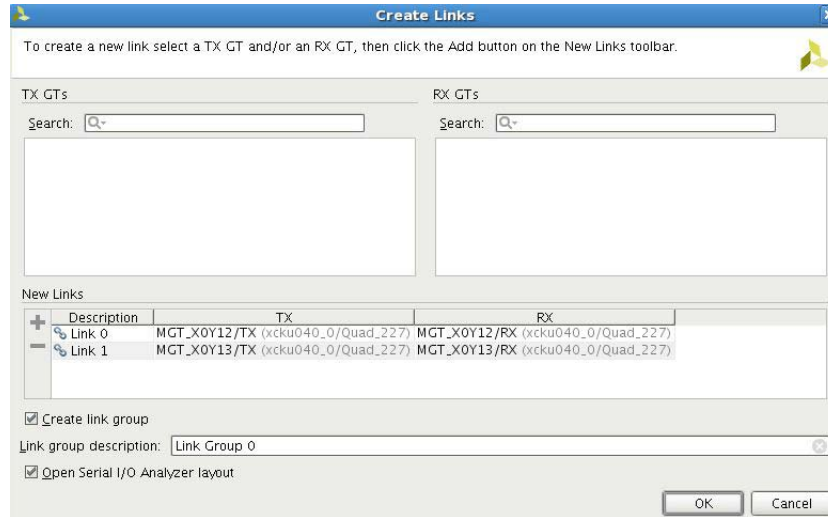

Figure 4-5: Create Links
5. Create links using the **Create Links** option on the SIO analyzer as shown in Figure 4-5.